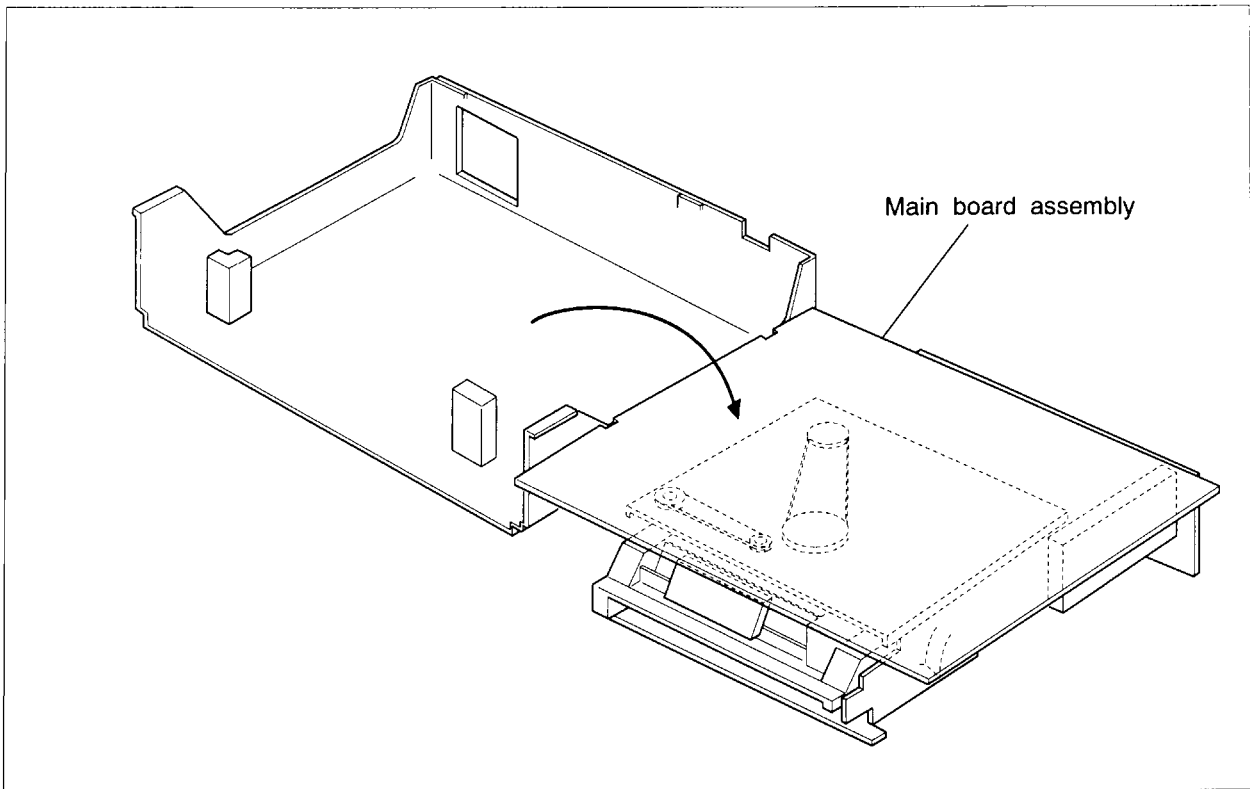

Fig. 1-5-3
- (5) Turn over the Mechanism assembly and Main board assembly.
- (6) Carry out checks & repairs as necessary as shown in Fig.1-5-3.